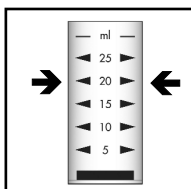

Figure 1
- Dilute the contents of the sample cup to the **20 mL** mark with distilled water (fig. 1).